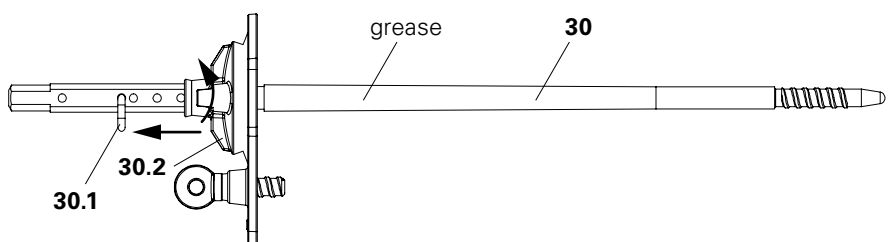

Fig. A5.05
2. Turn Nut (30.2) to the Cotter Pin. (Fig. A5.05)
3. Grease Tie MX 15 (30), e.g. using PERI Bio Clean concrete release agent.